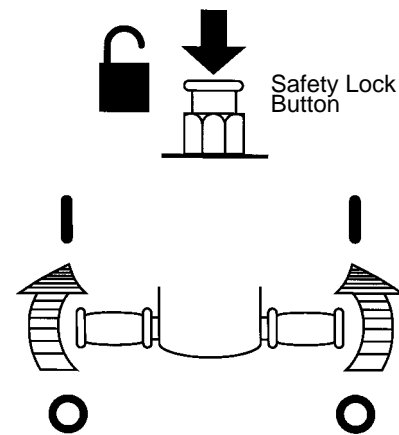

FIG. 5.
3. Start machine by pressing safety lock button and turning twist grips forward. Release thumb from safety lock button once machine starts (Figure 5).